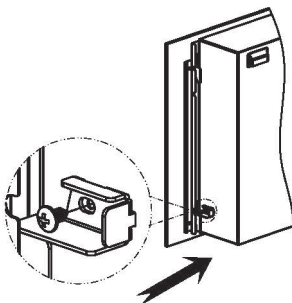

Figure 6
- Insert and tighten the front glass panel screw (see Fig. 6) to secure the front glass panel to the heater.